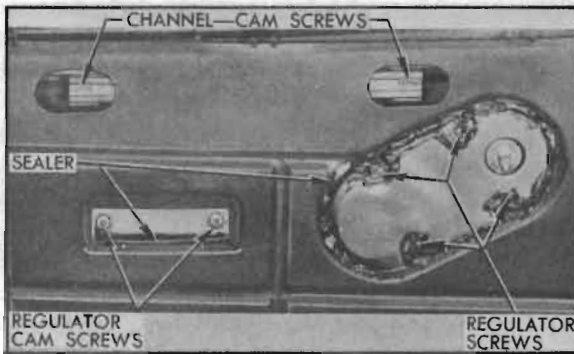

Figure 13-30—Rear Quarter Window Regulator and Cam Attaching Screws
3. Remove the four screws securing the window lower sash channel to the cam. See figure 13-30.
6. To install glass reverse the removal procedure. The stationary cam attaching screws (figure 13-30) pass through vertically slotted holes in the rear quarter inner panel to permit adjustment or alignment of the glass in window opening.
3. Lower the regulator arms to a point approximately in line with the stationary regulator cam, remove tape covering the cam, then remove cam which is attached by two screws. See figure 13-30.